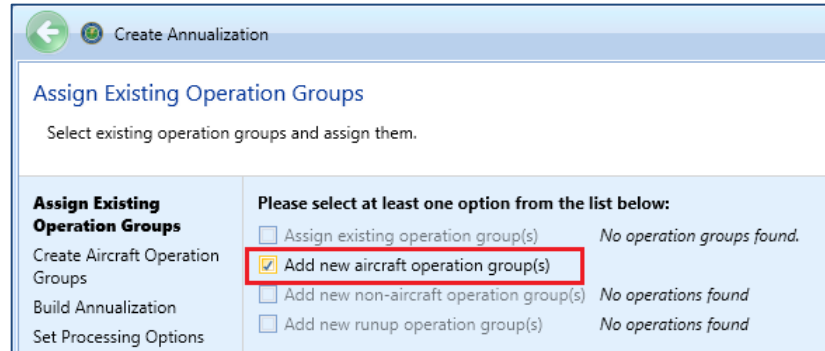

Figure 27. Create Annualization Wizard – First Step
3. In the first step, check *Add new aircraft operation group(s)*, then click *Next* (Figure 27).